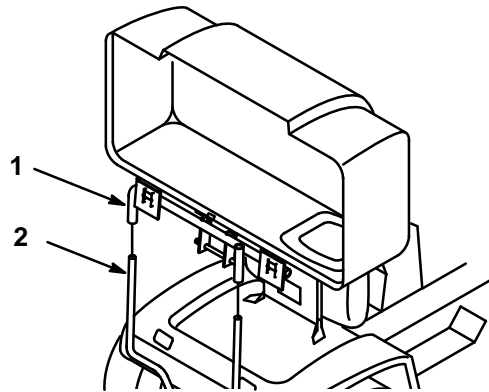

Figure 25
4. Carefully lift the bagger top and slide off the quick-attach bracket (Fig. 25). The bagger top is easier to remove if two people work together.